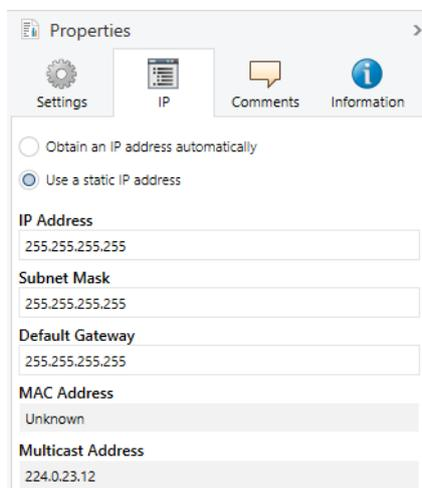

Figure 26: IP settings
3. You will find the available selection options in figure 26 and Table 12 “Settings for manual IP address entry or for receiving automatically”, p. 36.